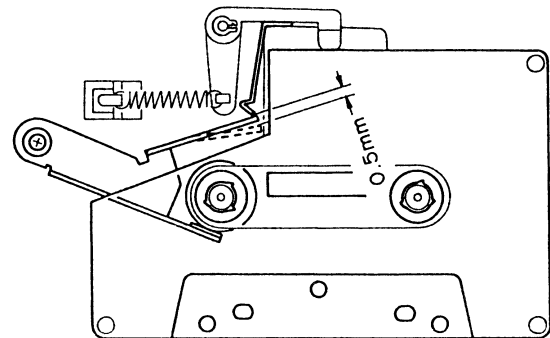
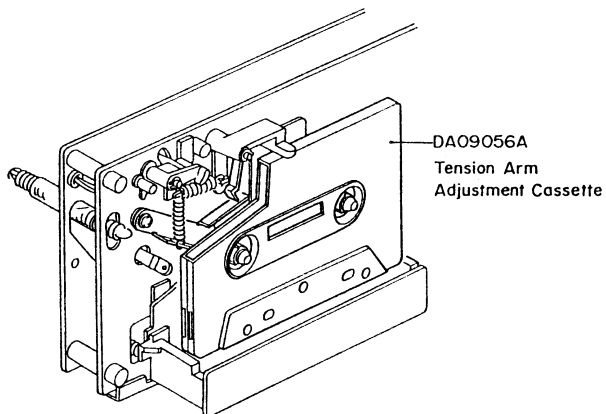

Fig. 4.19
Fig. 4.18
Refer to Figs. 4.18 – 4.21.
- (1) Load a Tension Arm Adjustment Cassette (DA 09056A) in the N-1000ZXL referring to Fig. 4.18.
- (2) Set the N-1000ZXL in Play mode.
- (3) Bend the Back Tension Arm with pliers so that the gap between the Cassette Holding Spring assembled with the Head Base Ass’y and the Back Tension Arm becomes 0.5 mm as shown in Fig. 4.19. Do not bend the pointed end of the Back Tension Arm.
- (4) Set the N-1000ZXL in Stop mode, and remove the Tension Arm Adjustment Cassette (DA09056A), then set the N-1000ZXL in Cue mode.